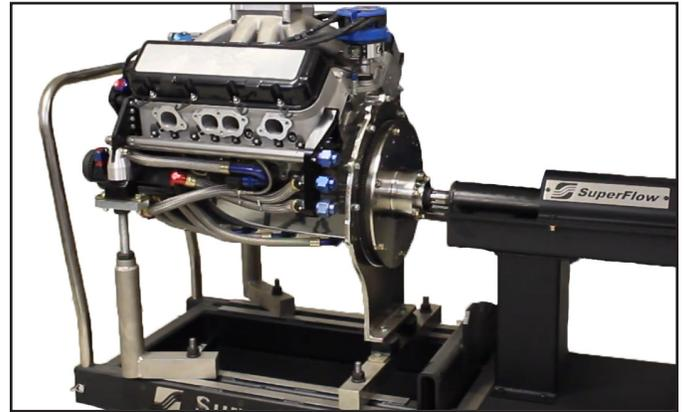

Figure 5.3 Drive Shaft Connected
2. Connect the tower supply hoses to the engine (Figure 5.3). Coolant is supplied to the engine from the lower connection on the CT700-NOP cooling tower. Coolant from the engine enters the CT700-NOP cooling tower at the top connection (other cooling towers may vary).